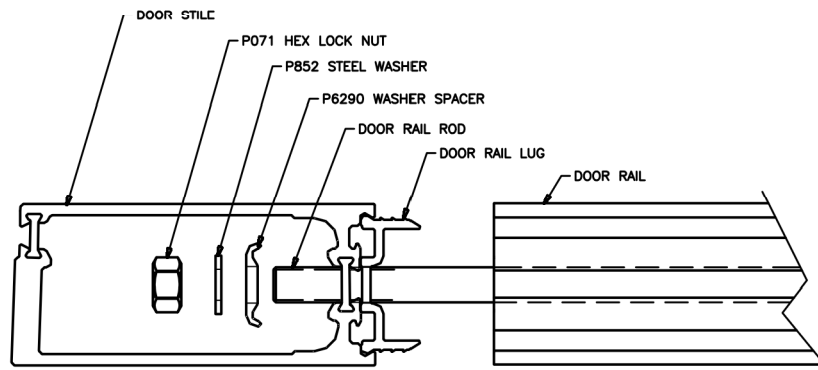

FIGURE 2
3. Place P6290 washer spacer, P852 Steel Washer, and S071 Lock Nut over rod end. See Figure 2